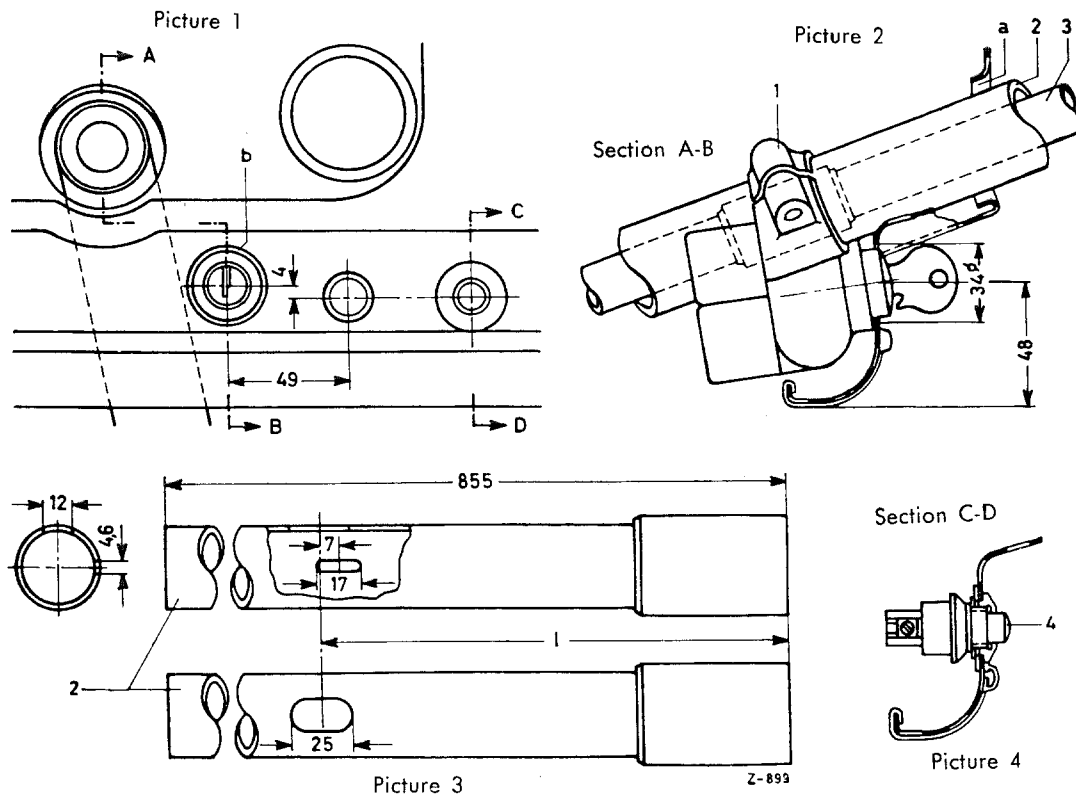

Fig. 46-8/5
20. Slide the rubber support (21) with shims (33) onto the cross strut under the steering column jacket and install the clamp. Install the two hexagon screws (25) from below and tighten. Also tighten the clamping screw of the steering lock (see Fig. 46-8/4).
When a steering lock is installed subsequently, the steering column jacket need not be replaced, since it can be modified for the installation of the steering lock. To do this mark and file the two slots on the steering column jacket as shown in picture 3 in Fig. 46-8/5, making sure that the two slots are arranged at the correct distance from one another and at an angle of 90°.
After having mounted the steering column jacket on the steering tube, cut out the circular opening (b) (approx. 34 mm ϕ) on the instrument panel to take the cylinder of the steering lock. To do this loosen the hexagon screw on the steering lock and back out the grub screw slightly so that the steering lock can be moved on the steering column jacket. When filing the opening check the steering lock for position several times (Fig. 46-8/5).
Remove the starter switch and replace it by the push-button switch (4) Part No. 000 545 27 08 (see Fig. 46-8/5).